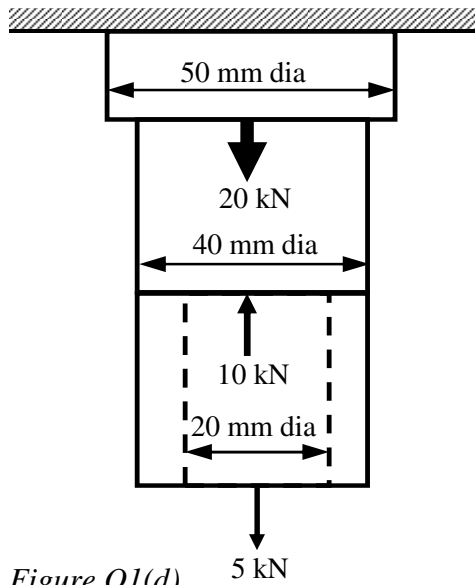

Figure Q1(d)
- d) A steel rod of varying cross-section is loaded as shown in Figure Q1(d). sketch and label the longitudinal stress diagram, indicating where the maximum stress occurs (6 Marks)